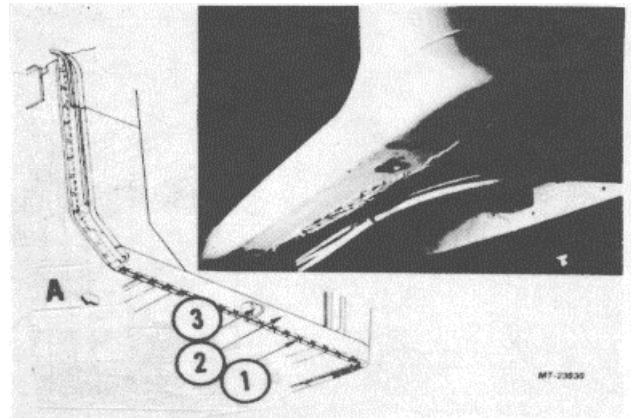

Fig. 41. Rocker Panel to Sill-Slide Inner Panel Spot Welds
5. Drill out spot welds along seam at bottom of cab and separate rocker panel from sill side inner panel (Fig. 41).